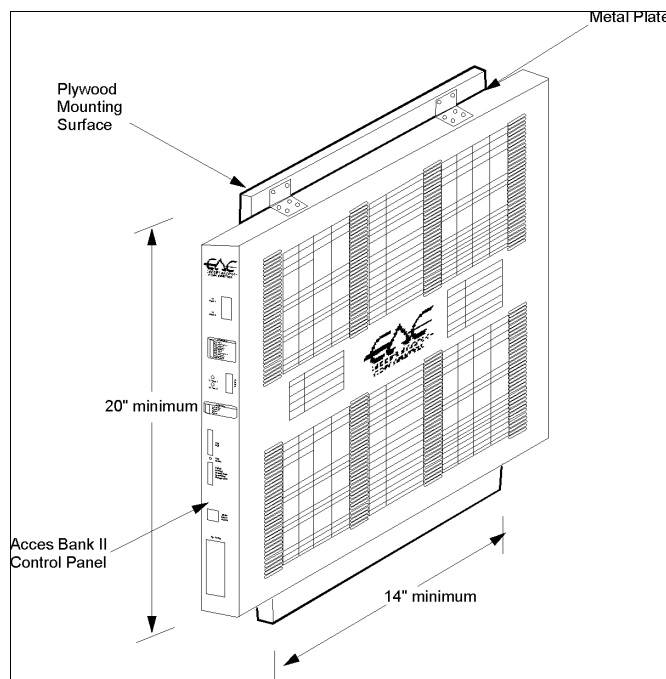

Figure 4-1: Wall-Mounting the Access Bank II - SNMP
2. To create a 3/4 inch offset between the Access Bank II - SNMP chassis and the wall surface for better ventilation, mount a 3/4 inch thick piece of plywood (at least 20 inches vertically by 14 inches horizontally) on the wall using fasteners appropriate for mounting a heavy object (see Figure 4-1).
3. Mount the Access Bank II - SNMP chassis to the plywood with eight #8 x 3/4" pan-head (or larger) wood screws (Figure 4-1).